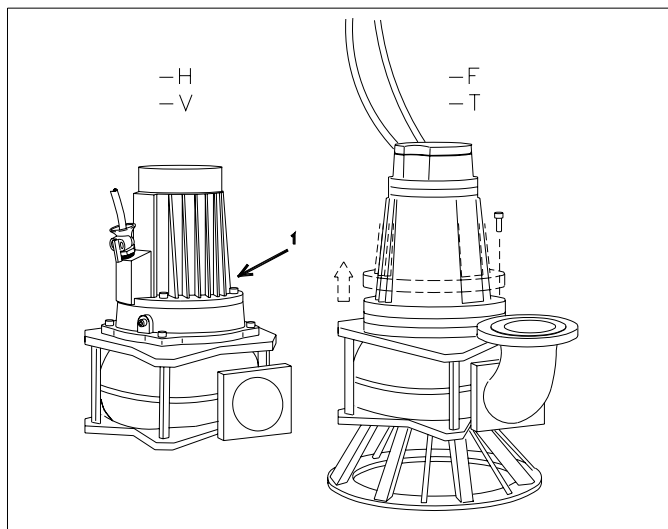

Fig. 7.11
Unscrew the inspection plug of the motorhousing (see Fig. 7.11 pos 1).
Lift the pump very carefully a few cm's, see fig. 7.11.